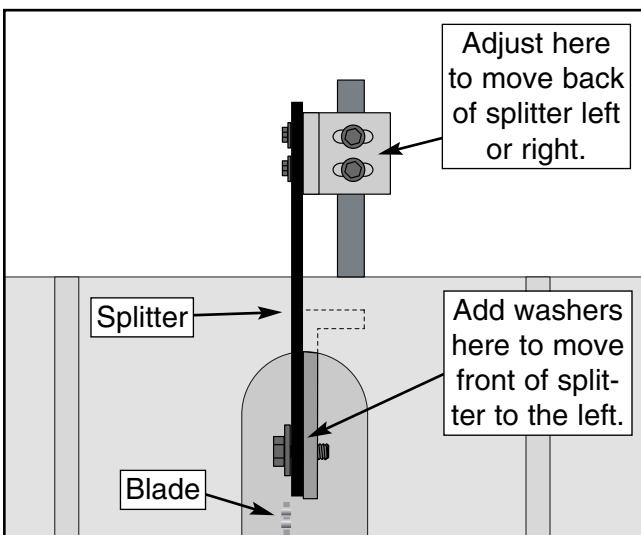

Figure 40. Improper splitter/blade alignment.
10. If the blade guard/splitter is to the right of the blade as shown in **Figure 40**, add washers between the splitter and front mounting bracket and adjust the rear splitter support as shown in **Figure 40**.